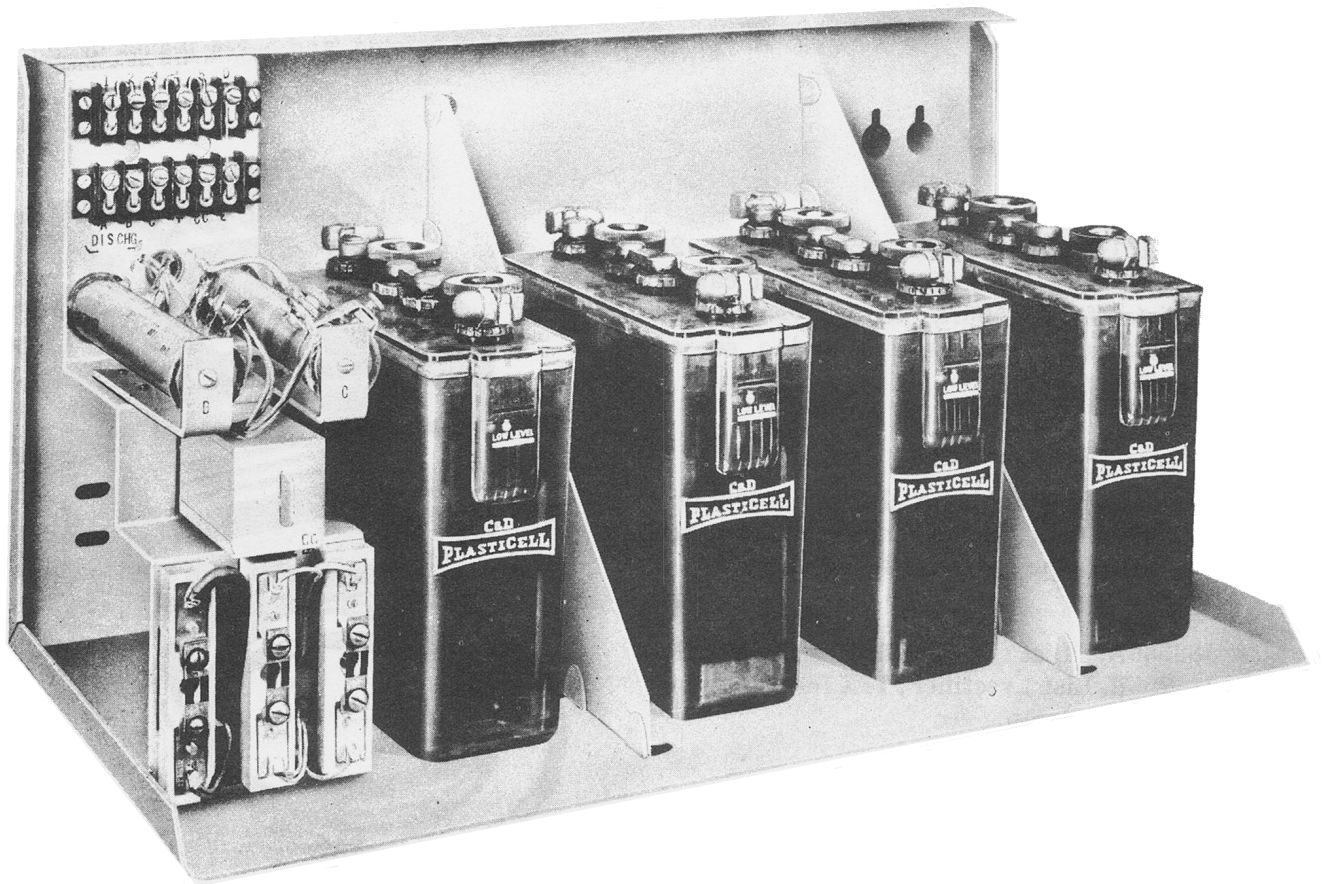

Fig. 1 — 101A Power Plant, Cover Removed
2.02 The cabinet is the same size as the 4-plate apparatus cabinet. It contains a charge control circuit and fuses (see Fig. 1).